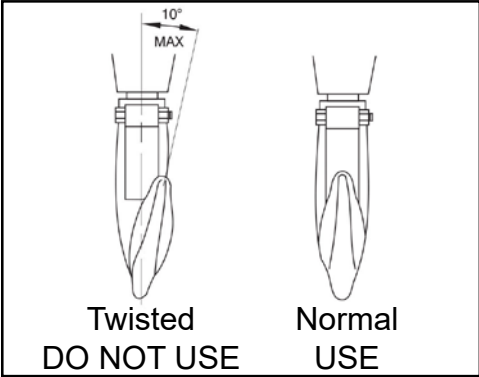

FIGURE 9
- » HOOKS: Check for wear and damage monthly. This includes: cracks, twists, latch engagement and latch operation (See Figure 9). Replace hooks that exceed the throat opening discard width (See Inspection Criteria). If the hook latch snaps past the tip of the hook, the hook has been overloaded and must be replaced. Check the hook support bearings for lubrication and damage. Check that hooks swivel easily and smoothly. Repair or lubricate as needed.